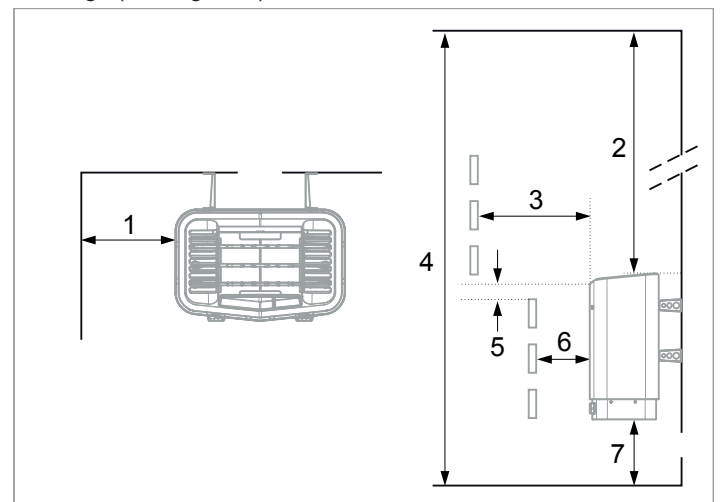

Figure 2: Positioning the heater - normal installation
- at a safe distance from the floor, side walls and interior fittings (see Figure 2).